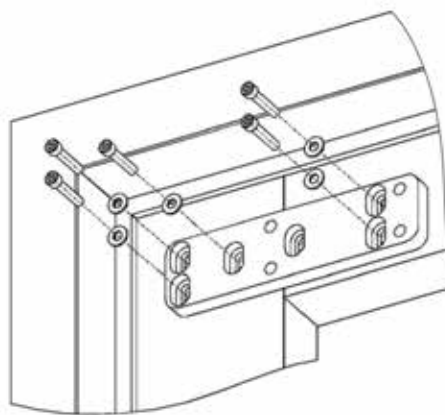

Figure 10
1. Install operator mounting bracket to door using locations marked in "Prepare Frame and Door" section on page 6. (Figure 10)